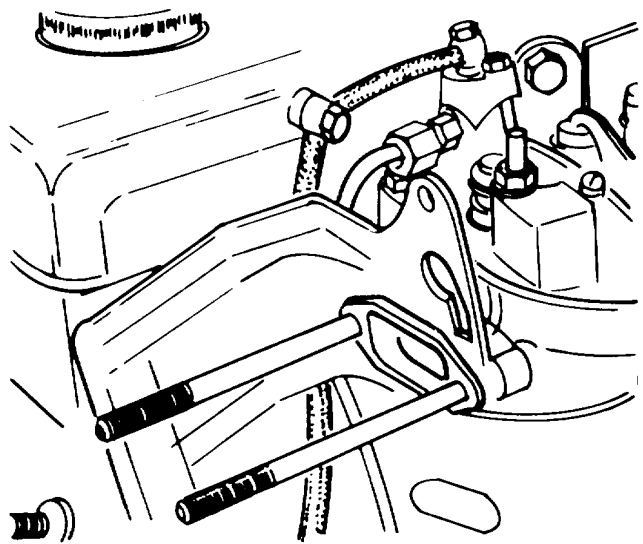

Figure A-63. Replacing Two Brackets
t. Replace the two brackets. Use new gaskets on both sides of these brackets. Note that the exhaust gaskets and air cleaner gaskets are different. (Figure A-63)